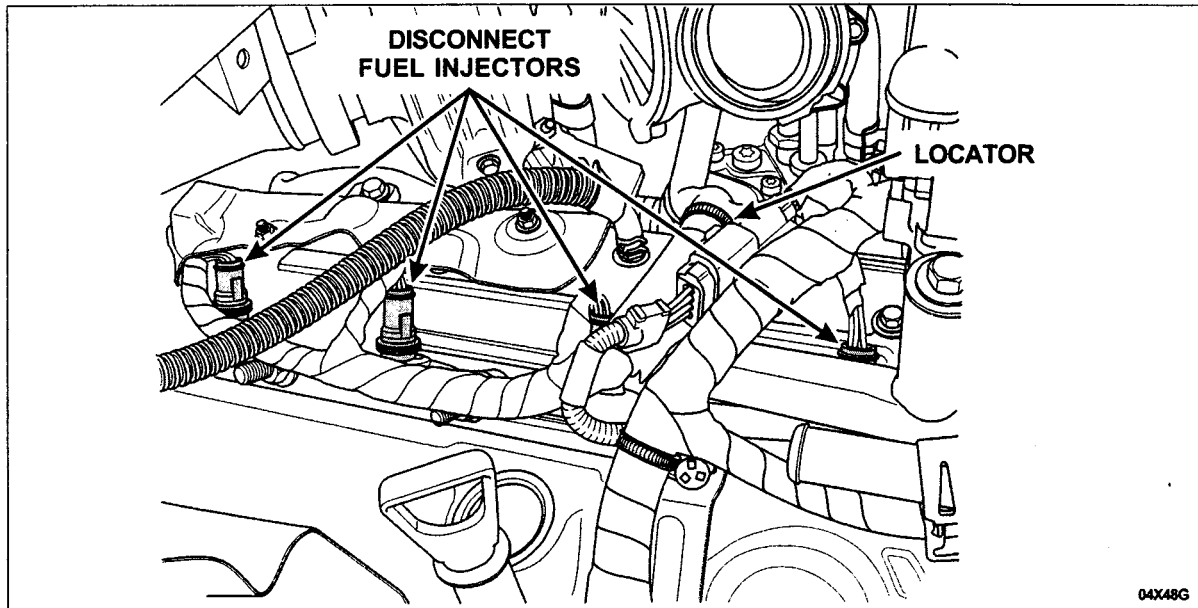

FIGURE 8
4. Disconnect the four (4) passenger-side injector connectors and the one (1) retainer located behind the alternator. Remove the harness from the vehicle by carefully pulling it from under the turbocharger towards the driver side of the vehicle. See Figure 8.